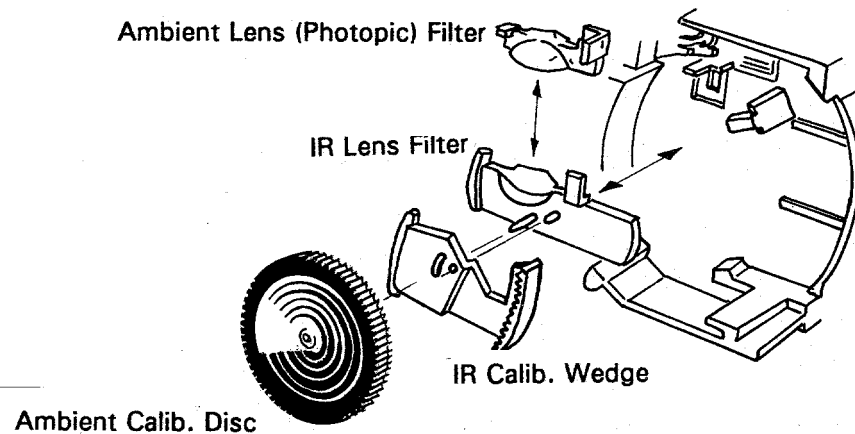

Fig. 19 Removing Ambient Calibration Disk, IR Calibration Wedge, IR Lens Filter & Ambient Lens Filter
21. Remove Ambient Calibration Disk by depressing tang at bottom (Fig. 19).
22. Remove IR Calibration Wedge, IR Lens Filter and Ambient Lens (Photopic) Filter from the Lens Mounting Plate (Fig. 19).